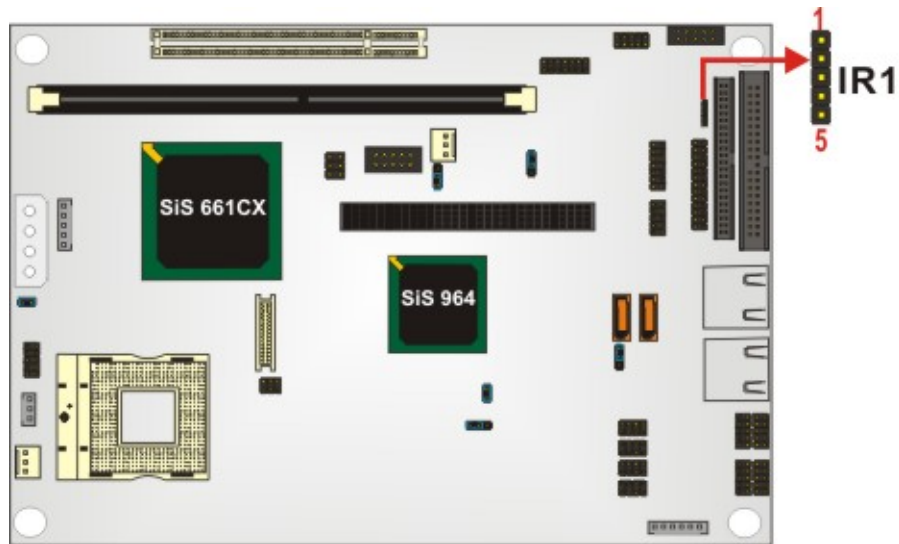

Figure 3-11: IR Connector Location
- CN Location:** See Figure 3-11